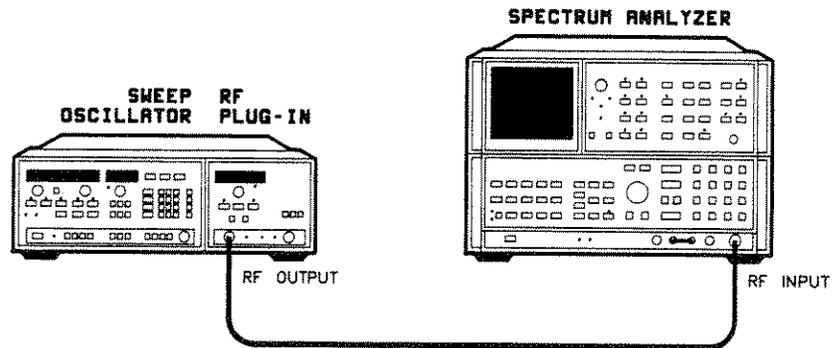

Figure 4-5. Residual FM Test Setup
1. Connect the equipment as shown in figure 4-5. Press **[INSTR PRESET]** on both the sweep oscillator and the spectrum analyzer. Allow the equipment to warm up for one hour.